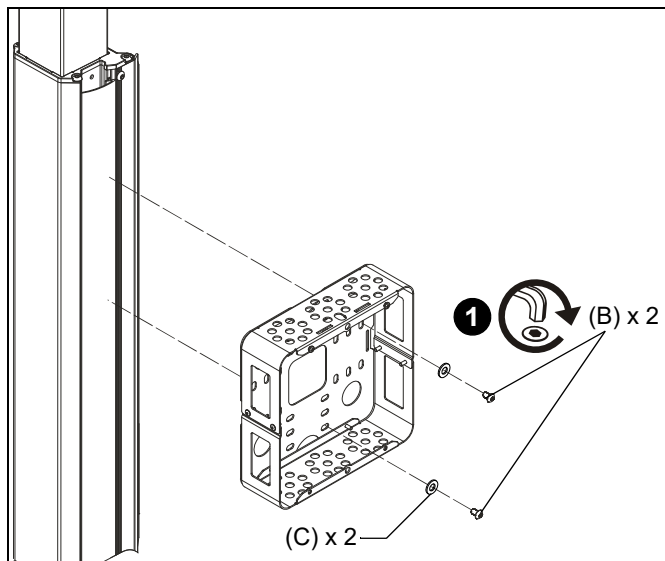

Figure 9
- Attach FCA510/FCA515 (A) to LPE1U column using two 5/16-18 x 1/2" button head screws (B) along with two 5/16" flat washers (C). (See Figure 9)